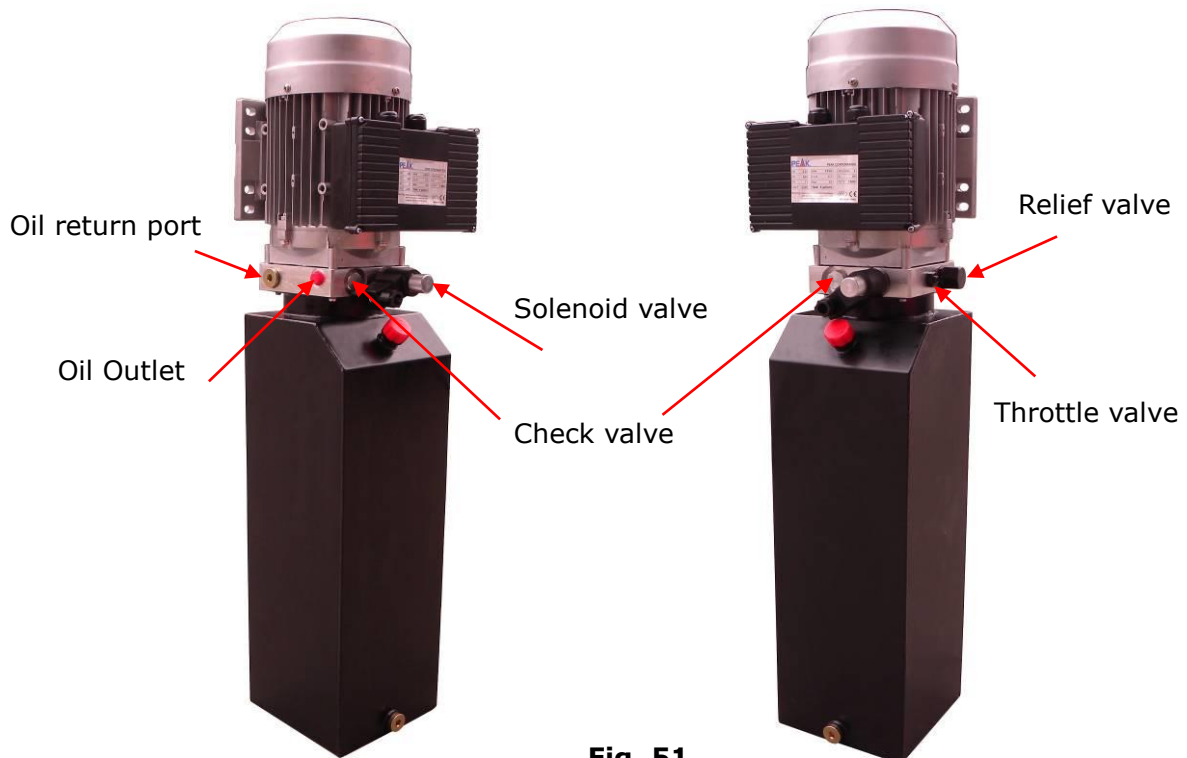

Fig. 51
a. INDYPRO electric power unit, 220V/50HZ, Single phase (See Fig. 51)